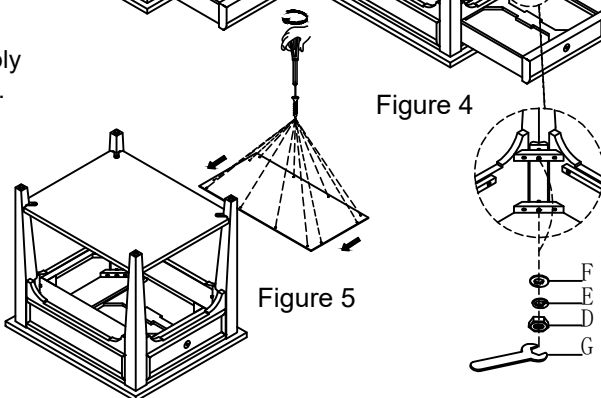

Figure 5
5. Attach dust panel drawer bottom back to the assembly then turn the table back upright and push the drawer in. (See Figure 5).